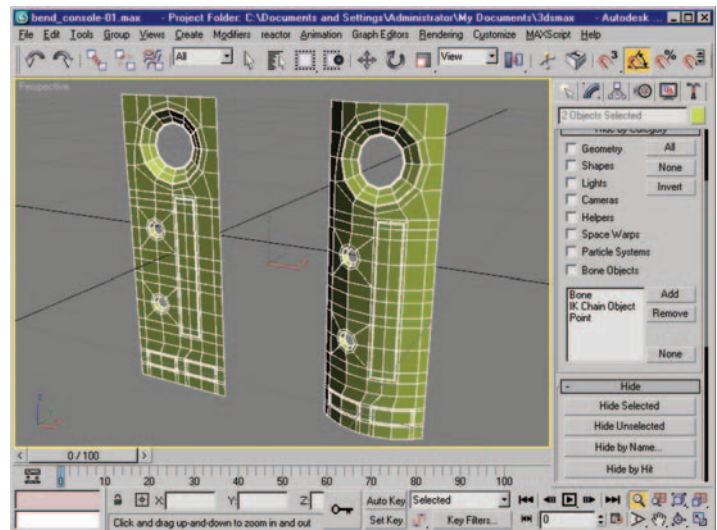

Figure 4.2 Original model (left), and with one Bend modifier (right).
1. First, apply a Bend modifier, with an angle of 84.5 and a bend axis of X. Our console now has a nice curve to the front face (Figure 4.2).